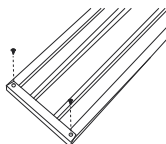

Figure 1
1. Lay the seat plank upside down on a flat surface. Slide the end caps onto each end of the plank. The pre-drilled holes of the end cap should be facing up. Use power drill and two self-tapping screws to secure each end cap onto each end of the plank. (See Figure 1)